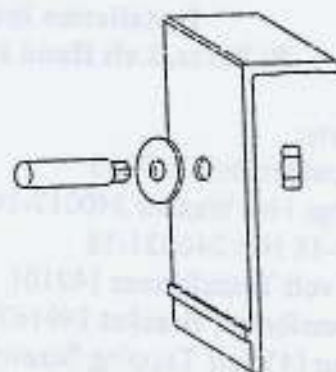

Figure 2
11. Install the shoulder bolt, washers, and 5/16-18 nut into the hole on the taller belt clip. The bolt should be mounted as shown in Figure 2.